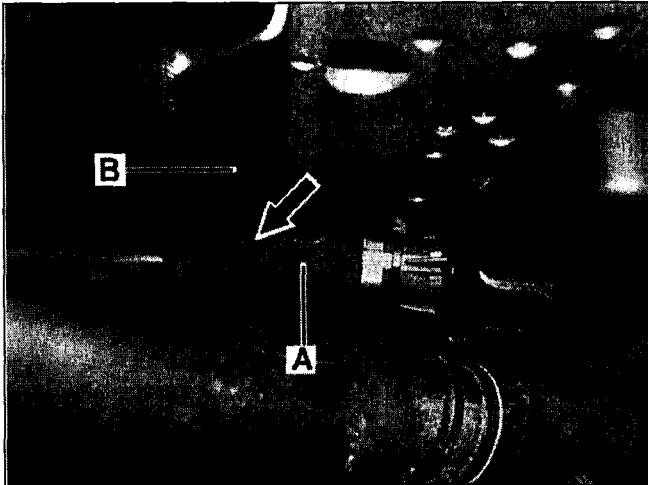
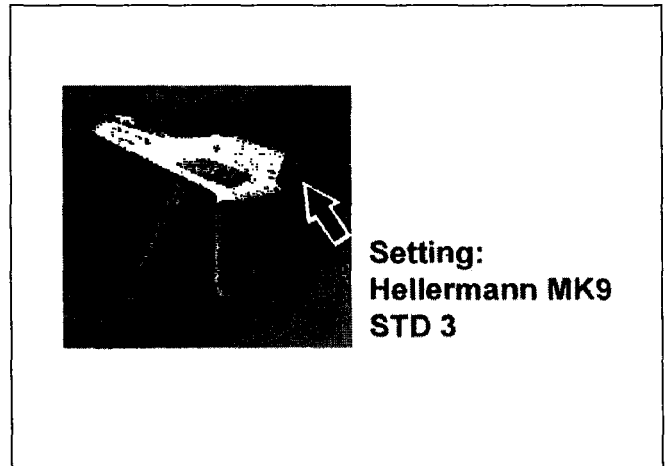

Figure 23
Figure 24
- Ensure cable tie (arrow, Figure 23) was properly affixed using cable tie pliers (Hellermann MK9; special tool number W 352 589 02 37 00 ); use **setting 3 on cable tie pliers**, as shown in Figure 24.
- Ensure wiring harness (A, Figure 23) touches the bracket (B, Figure 23) and is mounted there free of tension.